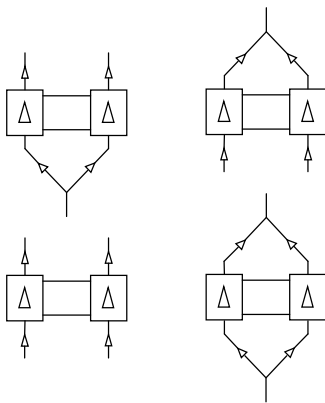

Fig. 9: Hose connection options for NFB versions
- Mounting orientation → Generally speaking, the pump can be mounted in any orientation. The venting and accuracy of the pump is optimal if installed as shown in the illustration (Fig. 9).